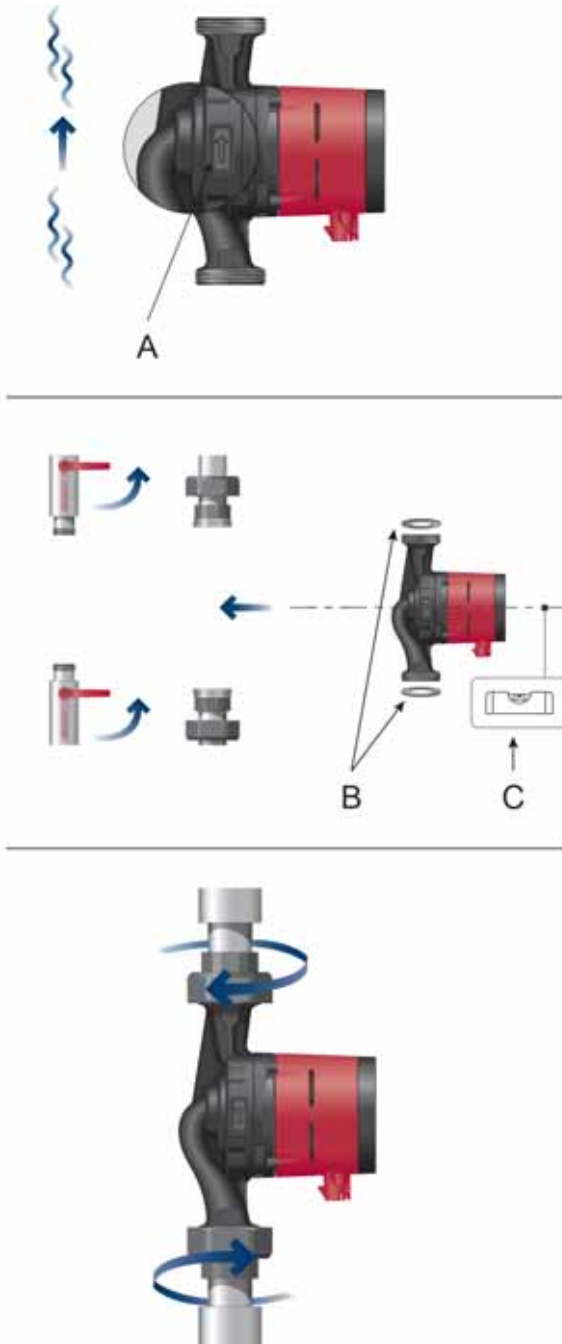

Fig. 1 Mounting ALPHA2 or ALPHA3
The arrows on the pump housing indicate the flow direction through the pump. See fig. 1, pos. A.
1. Fit the two gaskets when you mount the pump in the pipe. See fig. 1, pos. B.
2. Install the pump with a horizontal motor shaft. See fig. 1, pos. C. See also section 3.2 Control box positions, ALPHA2, ALPHA3.